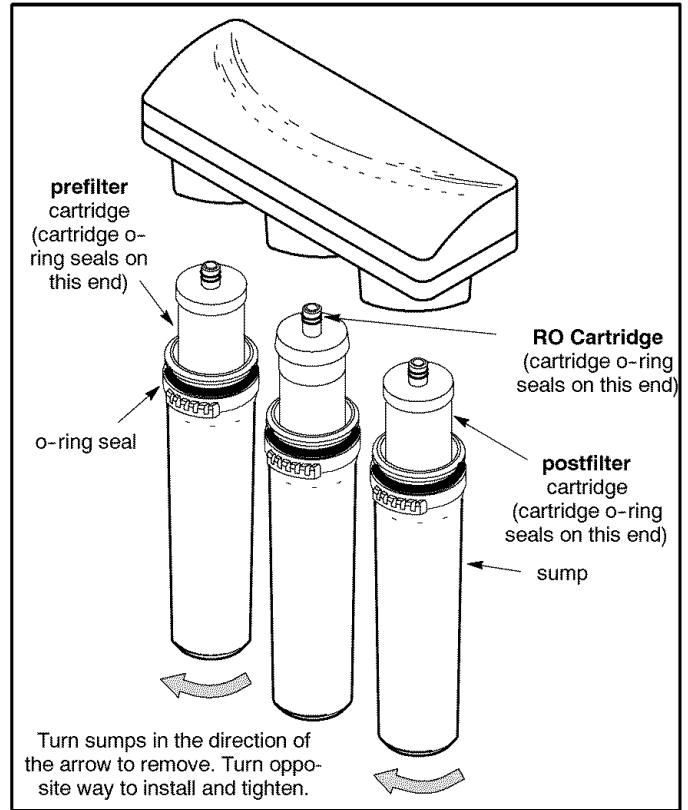

Figure 12
2. Referring to Figure 12, page 14, remove the RO membrane sump by twisting 1/4 turn left (↺). Remove the RO cartridge from sump. Place the cartridge in a **clean** plastic bag.
Important: Refer to Figure 12, page 14, and to page 15 when replacing cartridges. The prefilter (left side) cartridge and the postfilter (right side) have purple end caps.
To replace the filter cartridges (see Figure 12):
To replace the RO cartridge (see Figure 12):